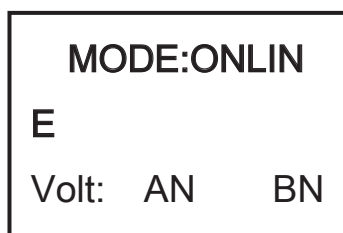

Fig.2 : Basic status interface
- 2) Press ESC/ ◀ or ▶ button, it will change to the basic status interface, see Fig2 below